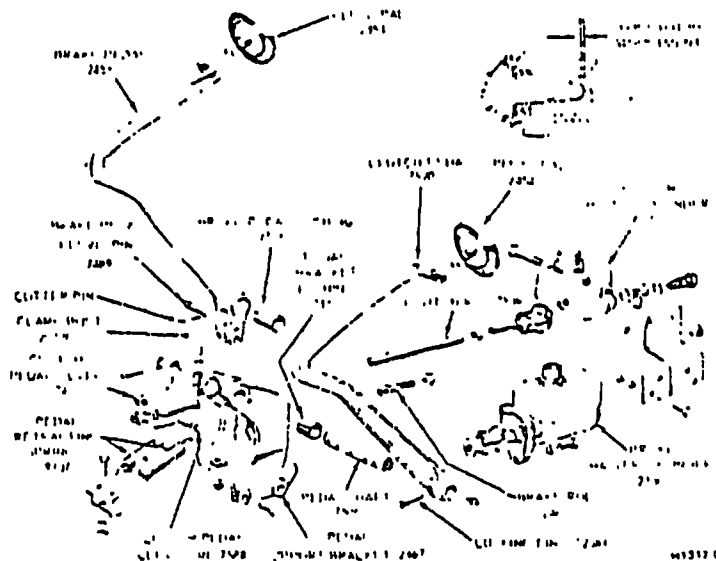

FIG. 10 Brake Pedal and Related Parts—P-500
2. Remove the pedal pads from the clutch and brake pedal (Fig. 10).